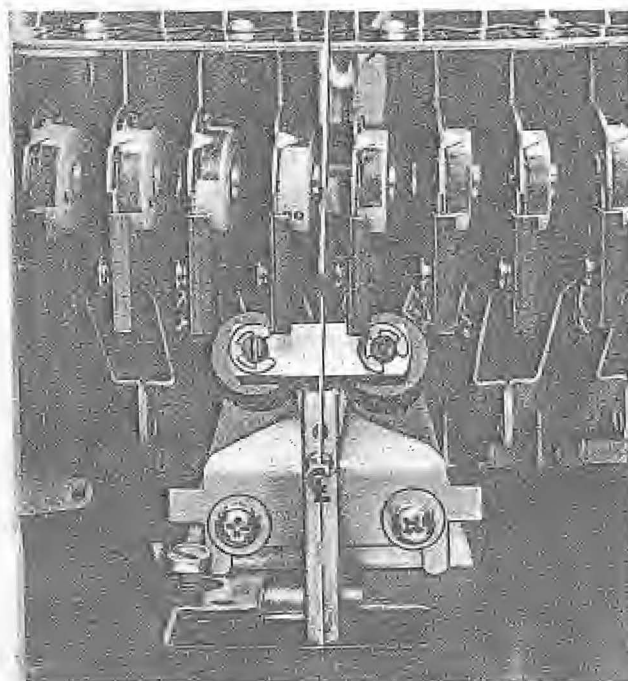
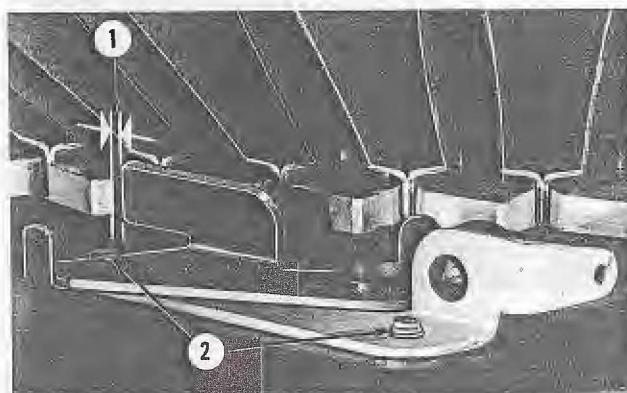
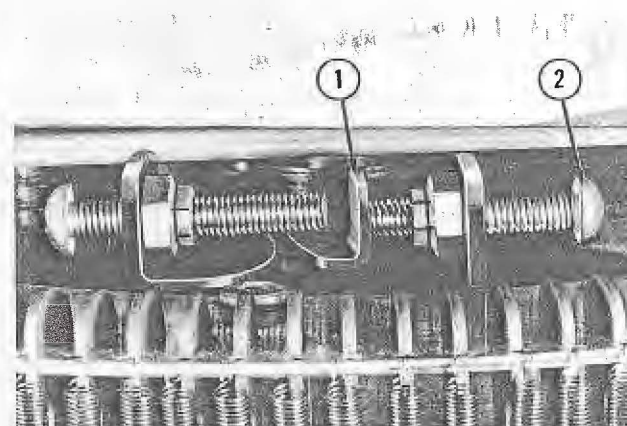
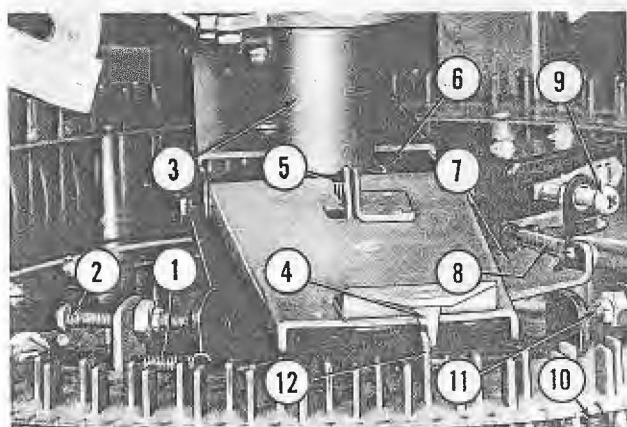

Fig. 54. CENTER LINE FOR BACK STOP PAWL SETTING
Fig. 58. BACK STOP PAWL OVER-TRAVEL
Fig. 59. PLUNGER RELEASE, ACTUATING SCREW ADJUSTMENT
Fig. 64. STOP SCREW ADJUSTMENT, SELECTOR CRANK
(1) Slightly loosen the two mounting screws (Fig. 58, Item 2).
(2) Turn the record carrier slowly until the center line of one of the record compartments is in accurate alignment with the left hand record lift arm as shown in Figure 54. Carefully maintain this condition of alignment and set the left hand back stop pawl to engage with the adjacent tooth of the index wheel. The depth of engagement should be 1/32" to 1/16" as shown in Figure 58. Tighten the mounting screws. Alignment of the record compartments with the record lift arms must be kept within a tolerance of 1/32".
(5) Adjust the actuating screw (Fig. 59, Item 2) so that the plunger latch releases the reversing switch plunger when the correct tooth, as selected, has overtraveled the back stop pawl a distance of $1/16''$ to $3/32''$ (Fig. 58, Item 1).
(1) Proceed as on the 2404 by turning the service switch OFF, release an odd number (inner) selector pin, rotate the record carrier until the selector crank arm engages the released pin (Fig. 64, Items 4 & 12). As viewed from the rear, manually turn the changer motor shaft clockwise until the reversing relay is heard to operate, at which point the right hand back stop pawl at the rear of the chassis mounting plate should have just dropped into engagement with a tooth on the index wheel. Allow overtravel of 1/32" maximum (Fig. 58, Item
The stopscrew serves to prevent momentum from driving the record carrier into the wrong selection. Check the setting of the stop screw (Fig. 64, Item 11) by releasing an inner pin and rotating the record carrier manually until the reverse relay is heard to operate. Continue by turning the changer motor shaft clockwise until the stop screw (Item 8) is resting against the tab of the stop bracket. At this point there should be 1/16" to 3/32" maximum overtravel between the back stop pawl and the tooth of the index wheel (Fig. 58, Item 1).